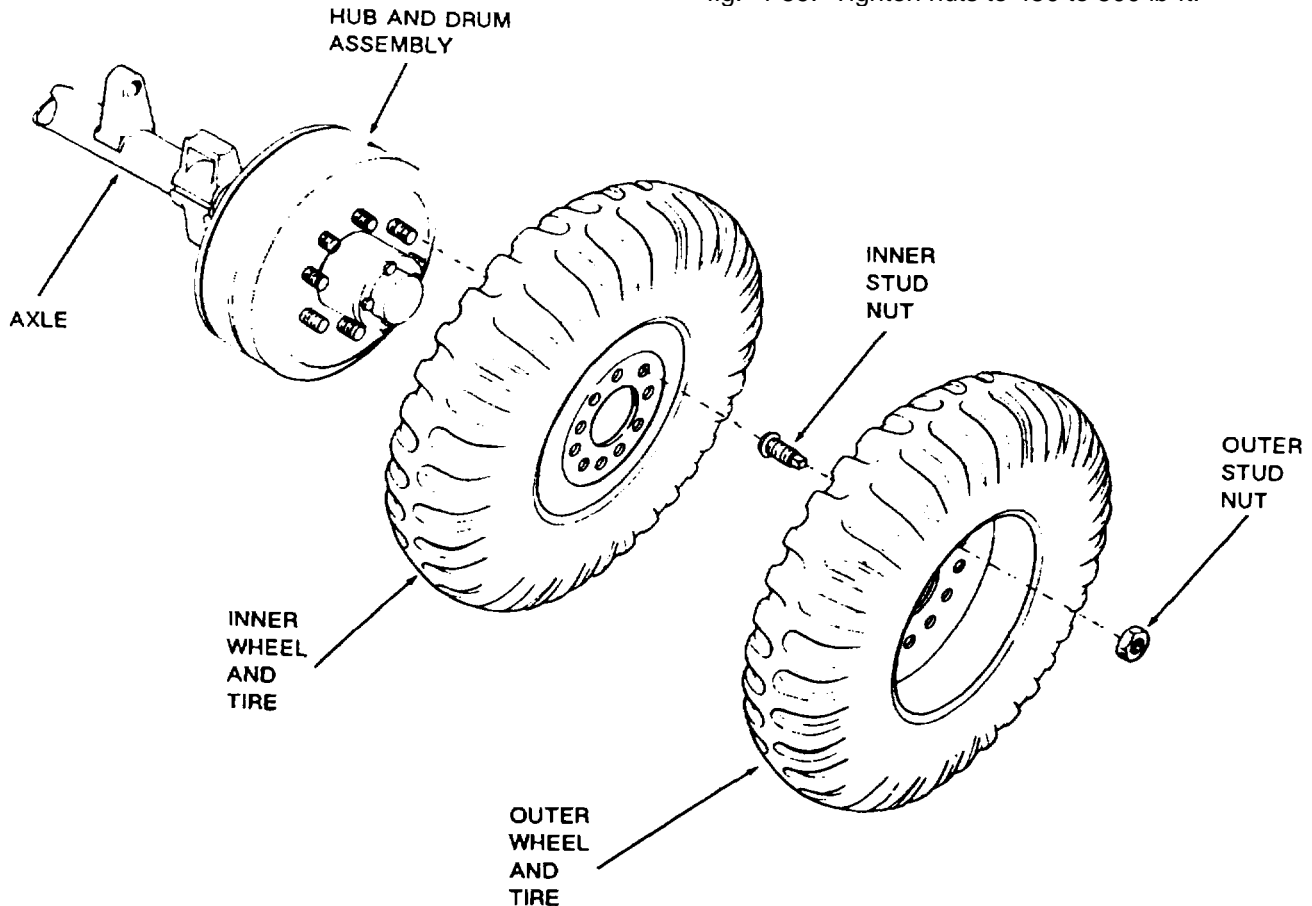

Figure 4-58. Replacement of Tires and Wheels.
a. Tire and Wheel Replacement, Fig. 4-58.